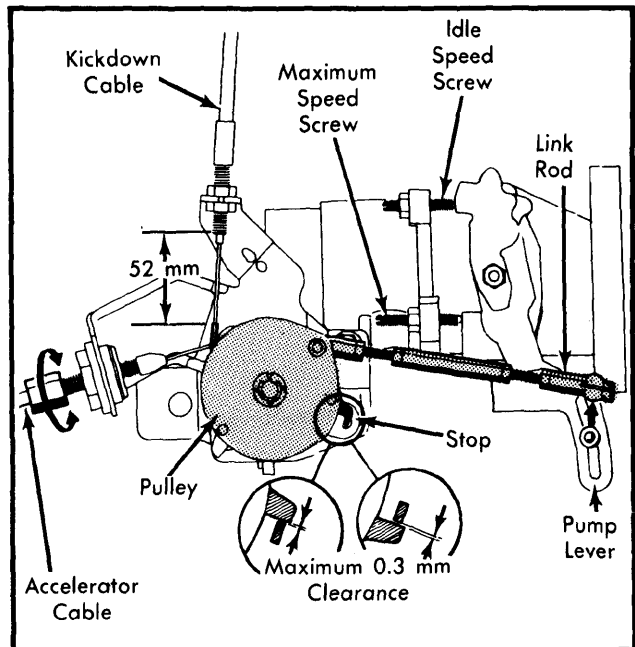

Fig. 2 Adjusting Idle Speed and Throttle Linkage
1) Connect photo-electric tachometer. Warm engine to normal operating temperature. Adjust low idle speed to 750-850 RPM. Check maximum engine speed and adjust if necessary to 5100-5300 RPM. See Fig. 2.